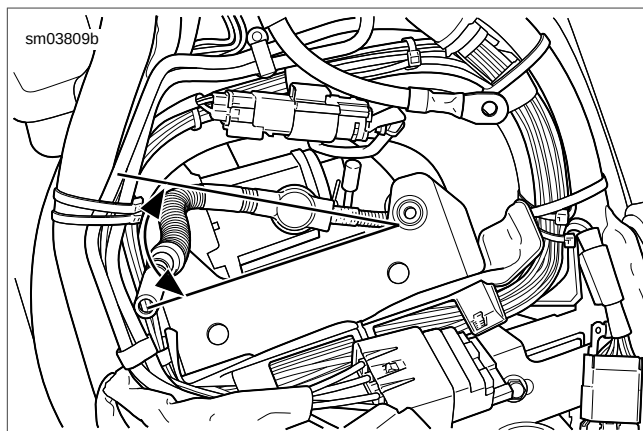

Figure 1-51. Positive Battery Cable Routing
- See Figure 1-51. Position positive battery cable properly at starter. Cable end must face 35 +/- 10 degrees forward from left side of vehicle.